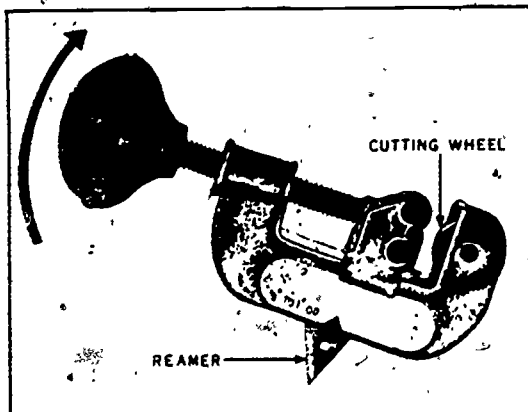

Figure 3-34. Tube cutter.
**Tube cutter.** A tube cutter, like the one shown in figure 3-34, is used to cut small sizes of copper tubing and copper pipe. The tool is designed with a frame, handle, rollers, and a cutting wheel. When pipe is to be cut, insert it between the rollers and cutter and apply sufficient pressure to the handle to force the cutting wheel into the pipe. Then rotate the complete cutter around the pipe. A triangular shaped reamer is built on the frame of the cutter. It is used to ream the bur from the inside edge of the tubing.